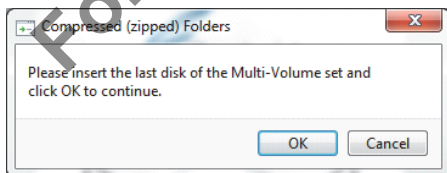

Figure 36. Final Screen from Windows 7 After CD Writing is Completed
- g. On a Windows 7 machine, you may see the screen displayed in Figure 36 after a successful CD write. Click the **OK** button as many times as necessary for it to disappear before continuing.